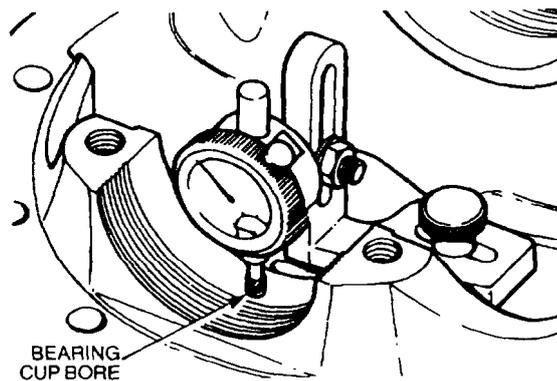

Figure 243 Measuring the Pinion Shaft Height
- u. Position the magnetized base of the dial indicator on the pinion shaft end face and rest the stylus on the lowest point of one differential cup bore (Figure 243). Note the dial indicator deviation from the zero setting.